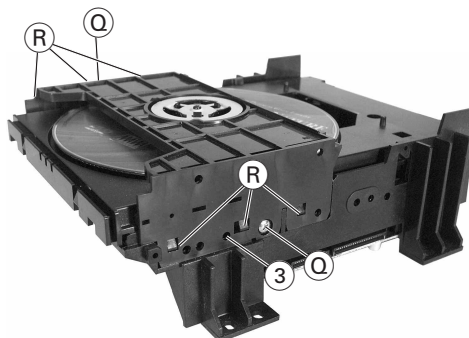

Fig. 9
- Insert a thin screw driver through the hole ③ (Fig. 9), push the slider about 2cm in inward direction then pull out the tray.
- 2 Schrauben **Ⓞ** (Fig. 9) herausdrehen.
- Rastnasen **Ⓡ** (Fig. 9) lösen und Laufwerkoberteil abnehmen.
- Undo the 2 screws **Ⓞ** (Fig. 9).
- Undo the locking lugs **Ⓡ** (Fig. 9) then remove the top part of the drive mechanism.